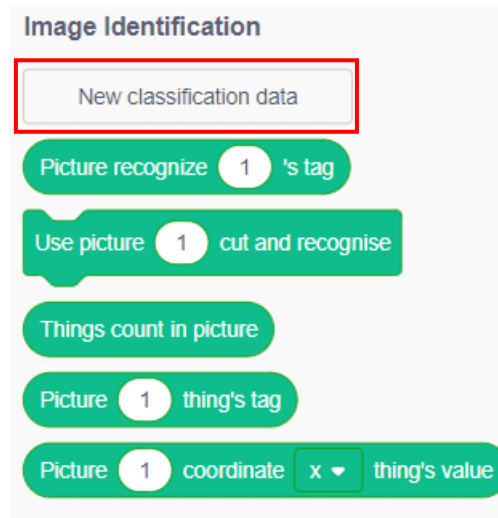

Figure 3.2 Create new classification data
Step 2: Create new classification data, as shown in Figure 3.2.